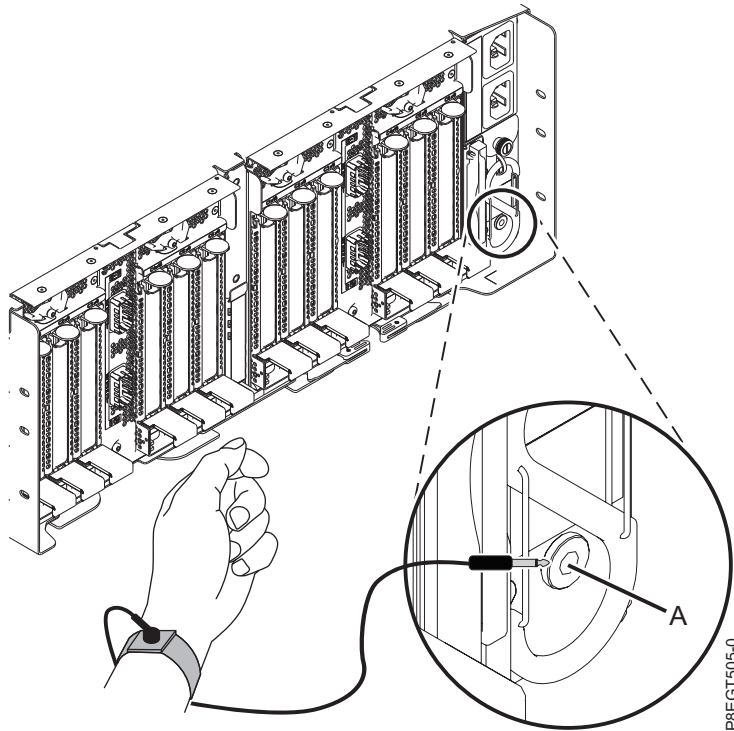

Figure 9. Attaching the wrist strap to the rear ESD jack
- a. Attach the wrist strap. Your system has an electrostatic discharge (ESD) jack. Plug the wrist strap into the ESD jack that is located at the rear of the system. See Figure 9.